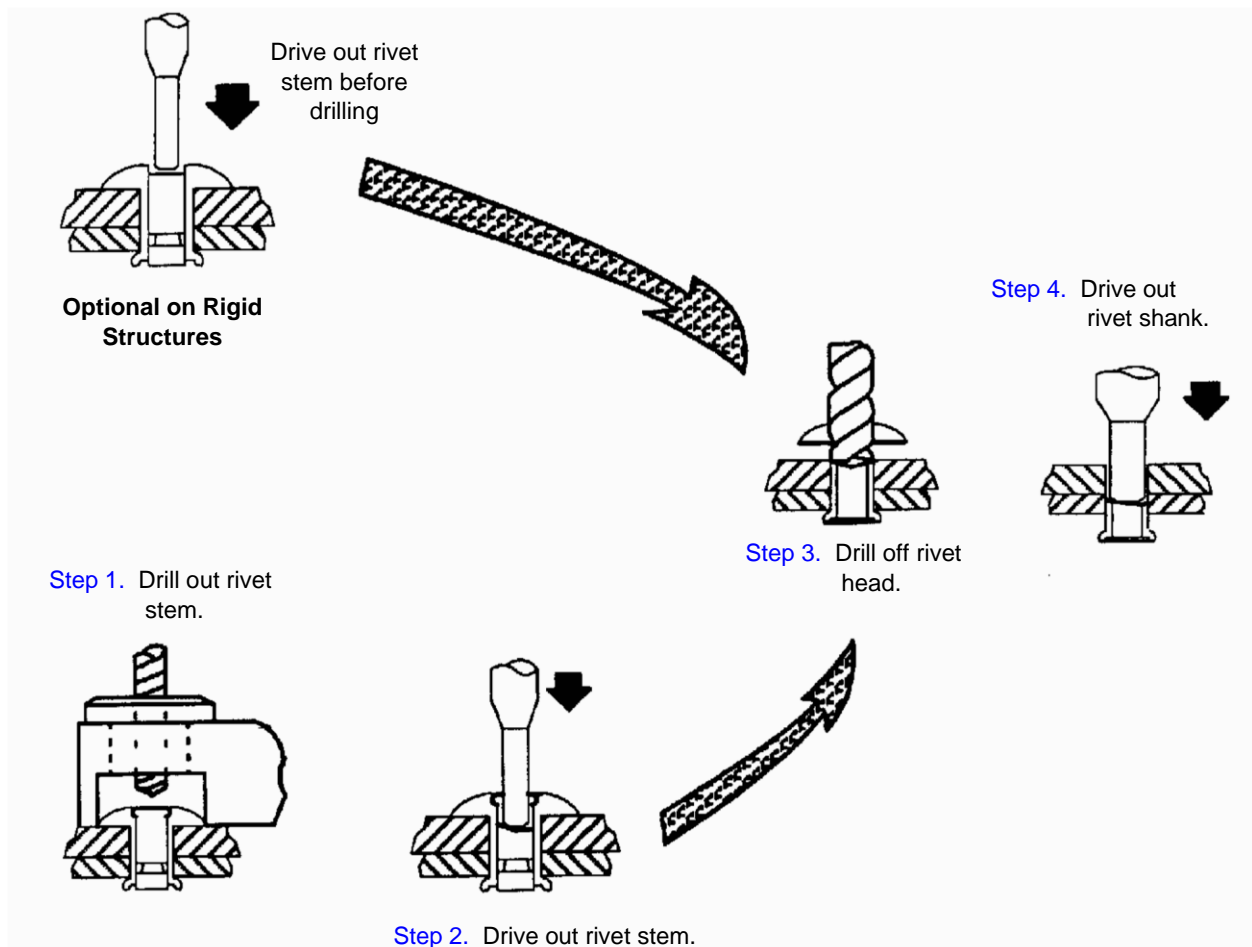

Figure 10. Removal of Installed Blind Rivets
- 5.8.1 If necessary, remove installed blind rivets as follows (see Figure 10):